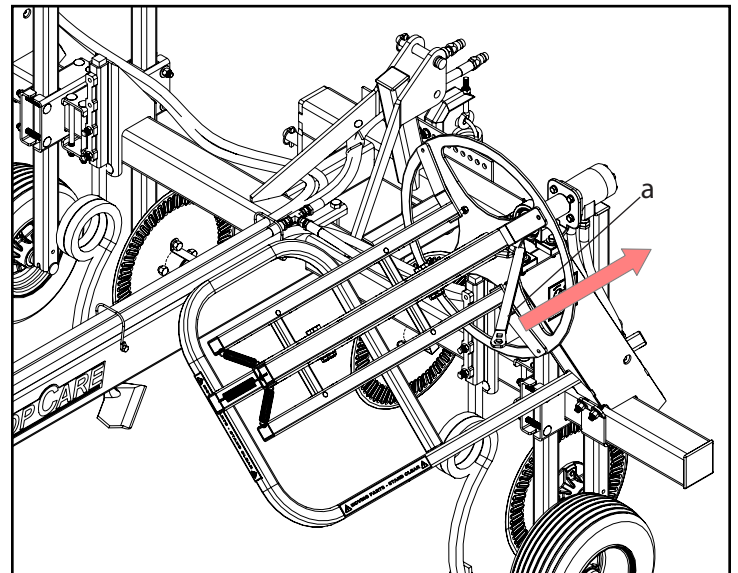

Figure 10: Removing the plastic
- With the tractor off, insert the reel release bar (a) into the reel and pull towards the front of the wrapper, as shown (Figure 10), to release and collapse the reel.